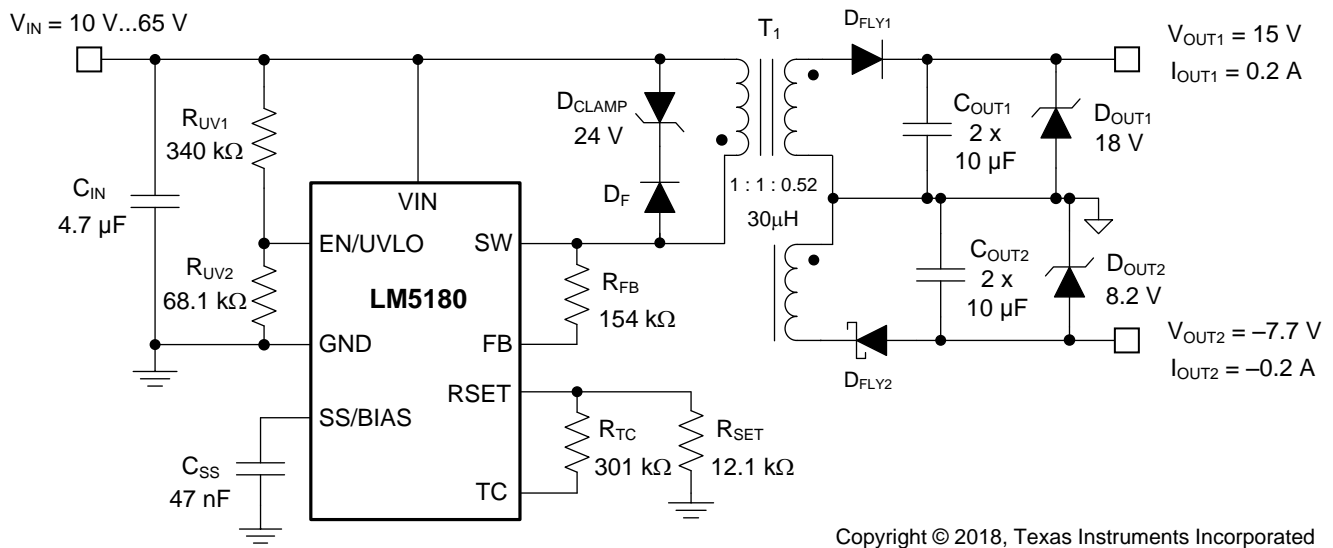

Figure 1. LM5180 PSR Flyback Dual-Output Schematic
Figure 1 shows the schematic of an LM5180-based flyback converter (EMI filter stage not shown). Soft start (SS), temperature compensation (TC), and UVLO (EN/UVLO) components are shown that are configurable as required by the specific application. The transformer turns ratio is 1 : 1 : 0.52 and the primary-referred magnetizing inductance is 30  $\mu$ H.